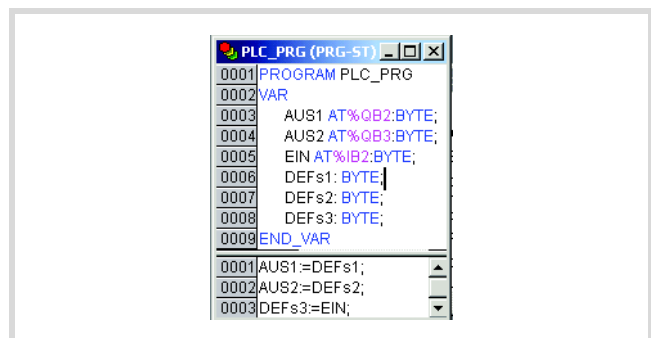

Figure 90: User program for XC100
► Create the program in accordance with Figure 90.